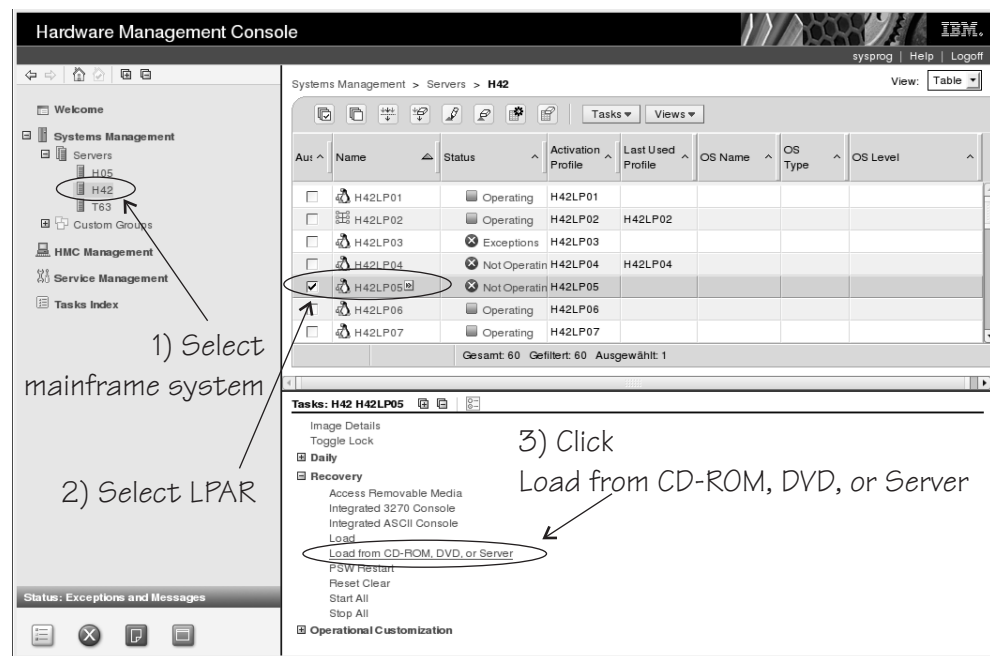

Figure 94. Load from CD-ROM, DVD, or Server task on the HMC
3. In the **Tasks** area, expand **Recovery** and click **Load from CD-ROM, DVD, or Server** (see Figure 94).